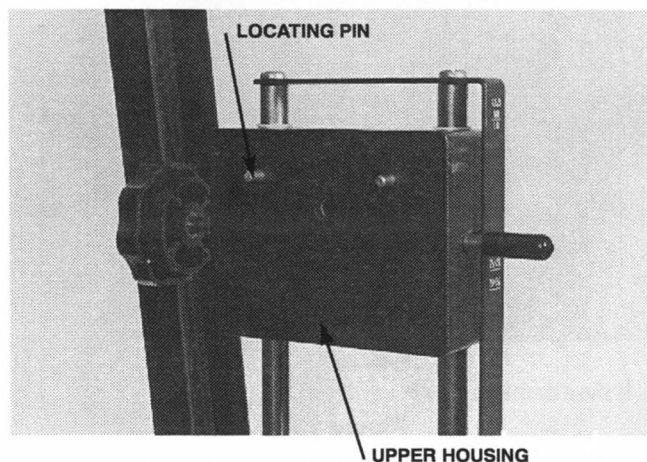

Figure 17
4. Line up the holes on the back of the lamphouse with the two alignment pins on the Upper Housing (see Fig. 17). Secure the lamphouse to the Upper Assembly by tightening the mounting screw on the rear of the Upper Housing.
2. Line up the holes on the back of the Colorhead with the two alignment pins on the Upper Housing (see Fig. 17). Secure the Colorhead to the Upper Assembly by tightening the mounting screw on the rear of the Upper Housing.